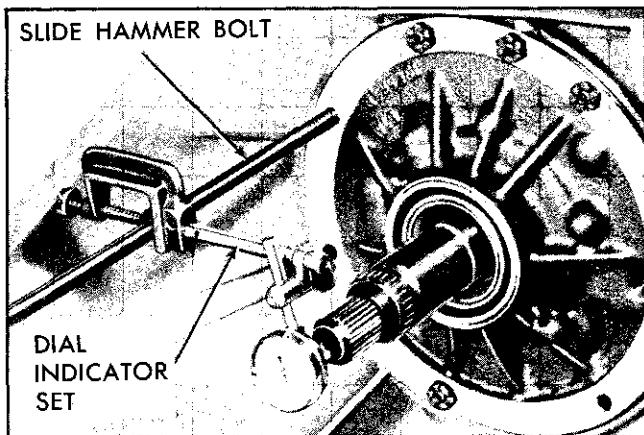

Fig. 7F-100 Checking Front Unit End Play
6. Refer to chart (Fig. 7F-101) and select correct thickness of thrust washer to establish a running clearance of ".008"-".051" (If end play is more than ".051" with .097" thrust washer installed, check for excessive wear of assembled parts or omitted thrust washers, races or bearings in or behind planet carrier).